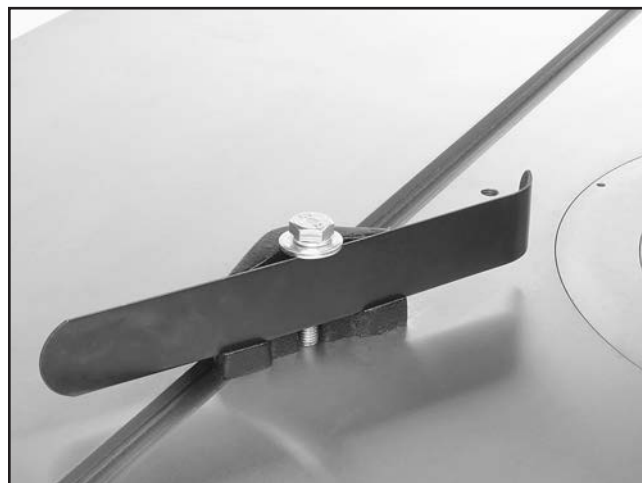

Figure 15. Horizontal hold-down installed.
1. Assemble the hold-down fingers into the horizontal hold-down brackets (see **Figure 15**).
Note: The direction of the horizontal hold-down finger as shown in **Figure 15** is correct when the cutter is rotating **FORWARD** and the workpiece is passing the cutter from right to left.